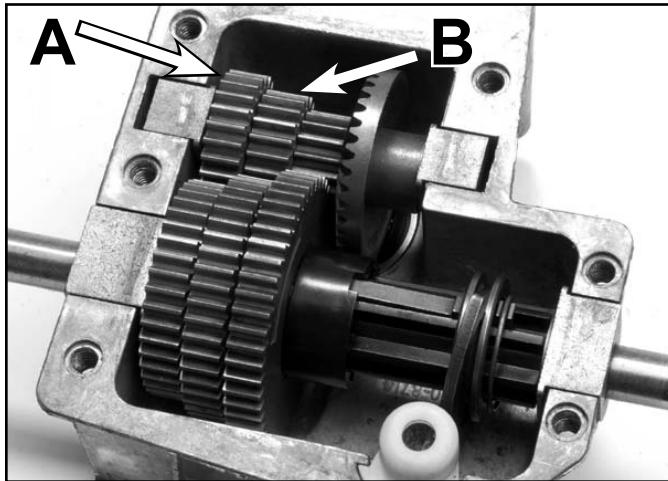

Fig 122
3. Removal of the input shaft and pulley assembly can be difficult because the input pinion has a tendency to turn as the pulley nut is loosened. This situation can be addressed by using an impact wrench or by removing the 20 (B) and 25 (A) tooth gears (Fig. 122) from the intermediate shaft and then putting the intermediate shaft assembly back onto the transmission. The hexagonal intermediate shaft can then be held with a 7/16" end wrench while the pulley nut is loosened.